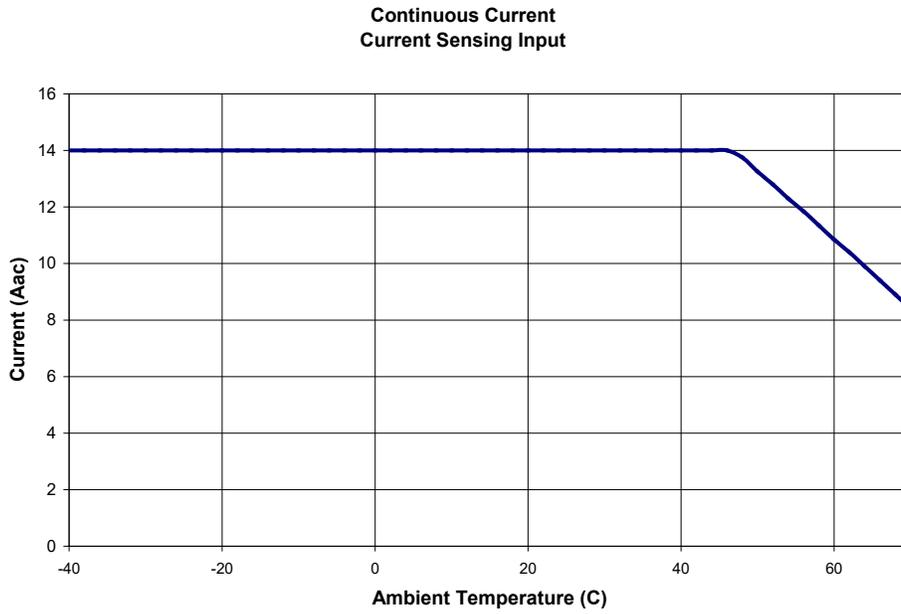

Figure 6-1. Current Sensing Input Derating Curve (BE1-50/51B-237)
* Continuous rating is 14 Aac for temperatures up to 45°C. See Figure 6-1 for derating curve.